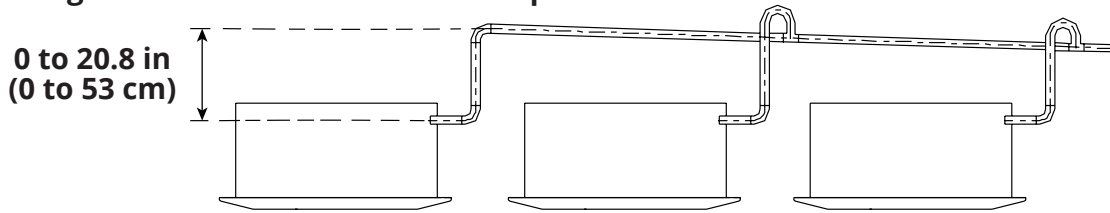

Fig. 5.19
- If you're installing multiple units and plan to connect them all to one drainpipe, please refer to Fig. 5.19 & 5.20 on the next page for more details on how the drainpipe should be run.